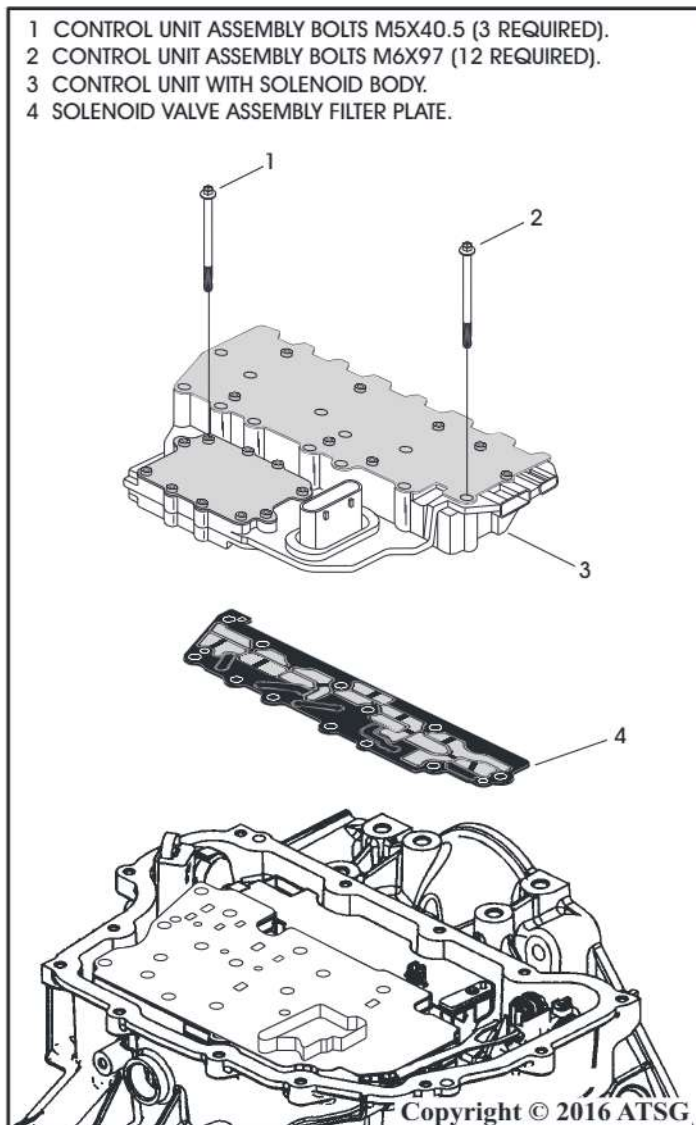

Figure 54
19. With the control unit assembly bolts removed the control unit with solenoid body can now also be removed as shown in Figure 54.
20. Remove and discard the control unit assembly filter plate as shown in Figure 54.